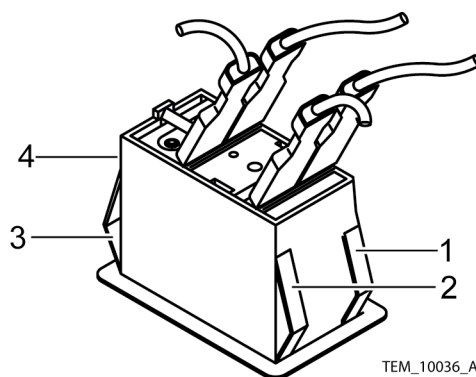

Figure 5-9. Power Switch Clips and Wires
7. Disconnect the four wires from the power switch. See Figure 5-9.
8. Depress the four clips on the power switch and push the power switch through its hole in the front cover assembly. See Figure 5-9.